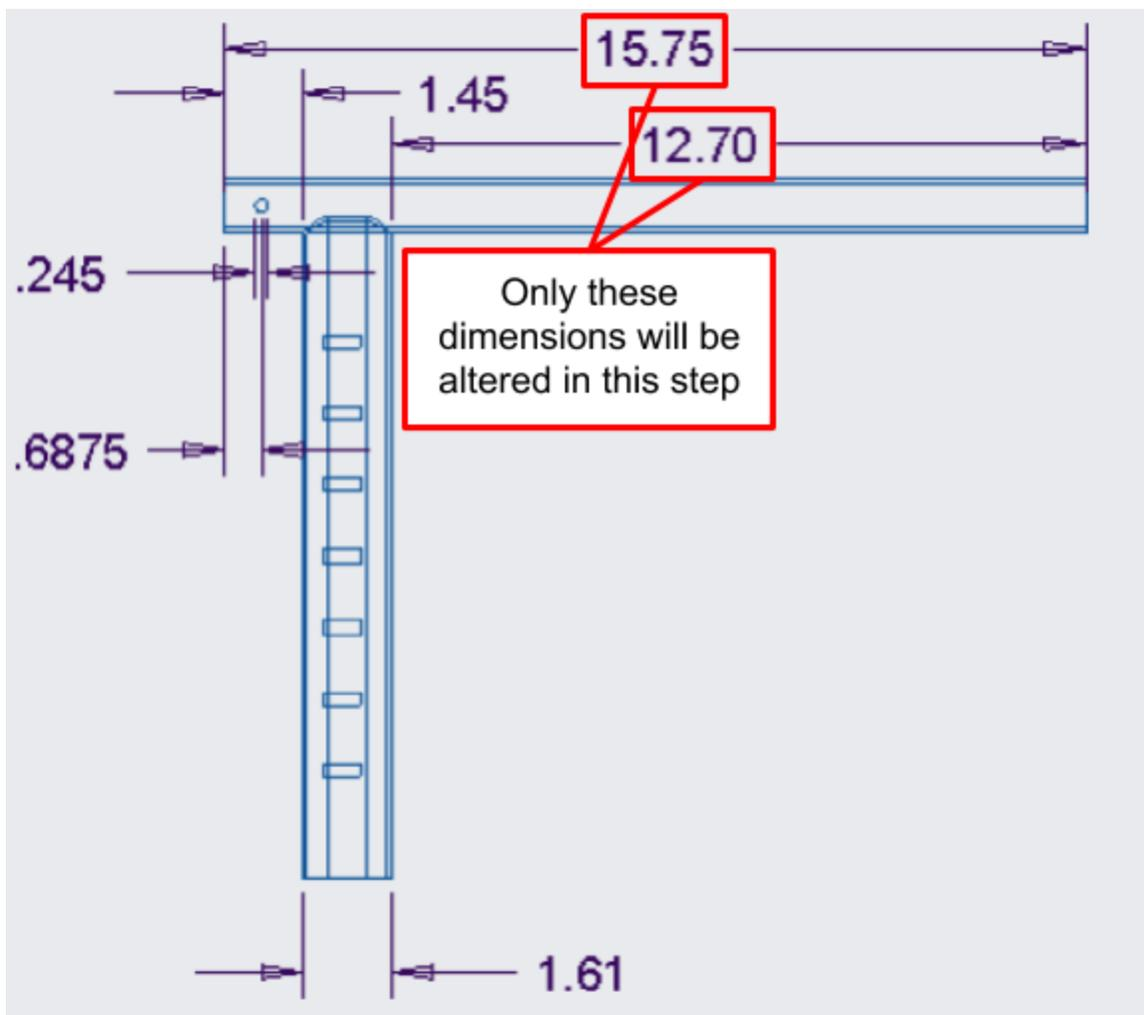

Figure 15. A close-up of the straight handlebar engineering drawing, showing the handlebar length dimensions that will be altered.
- a. If modifying the length of the handlebars, note that the dimension that will be modified is the 12.70" dimension, seen in Figure 15 below (from the engineering drawing for "Straight Left/Right Handlebar"). This figure represents a handlebar length of 13.50", measured from the vertical centerline of the adjustment bar. Here it is represented as 12.70", measured from the side of the adjustment bar, as this way of dimensioning the measurement is more useful for fabrication than a dimension represented from an imaginary centerline.
3. Mill out the cross-section of the adjustment bar tubing as seen in Figure 16 (from the engineering drawing for the "Left/Right Adjustment Bar") in the location where it meets the round handlebar tubing, seen in Figure 15 from Step 2. The result of this can be seen in Figure 17.